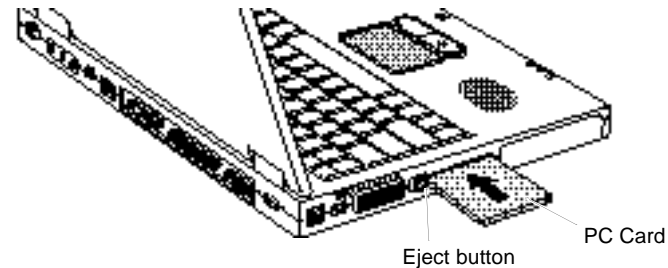

Figure 21. Inserting a PC Card
2. Align the card with a slot and insert the card into the slot until it locks in place (Figure 21).